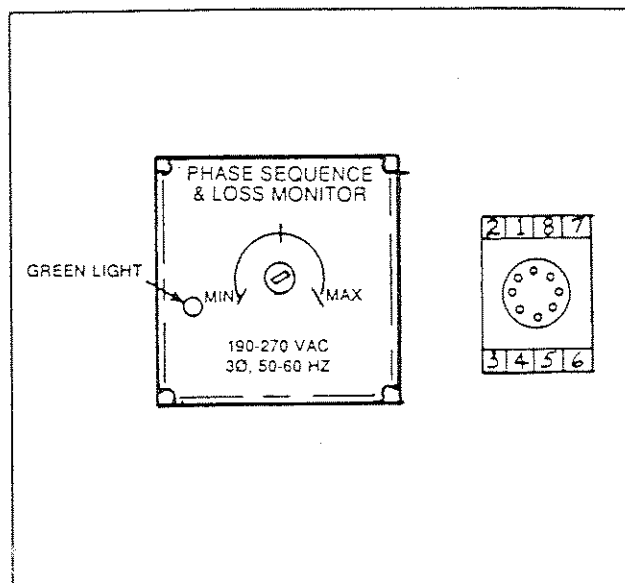

Figure 6. The 3-Phase Power Monitor
This device (Figure 6) is used on 3-phase, "Y-Type" prepackaged transfer switches. It senses "Utility" power source voltage in all three (3) lines of the 3-phase system. A voltage dropout in one line, two lines, or all three lines of the system will result in opening of the power monitor contacts and loss of "Utility" voltage sensing to the CMA circuit board. CMA circuit board action will then initiate generator startup and transfer of "Loads" to the "Standby" power supply. The device is rated 5 amperes at 240 volts AC.